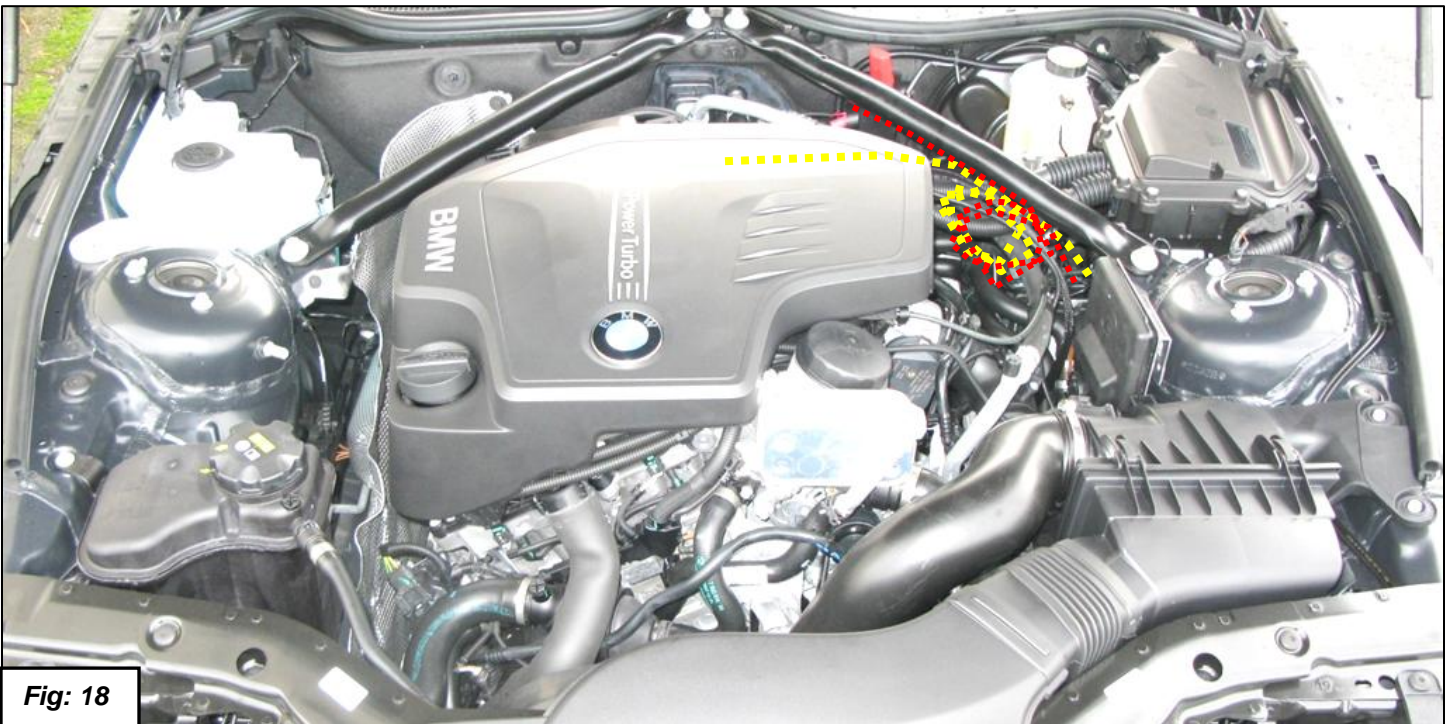

Fig: 18
25. Follow the first part of instructions **D440-0022** (steps 1-13) describing connecting to the engine control unit on the **N20** 4 cylinder engine. The difference of the installation on the Z4 is where you mount the DinanTronics box and the wire routing to and from it. Figure 18 shows the box location and wire routing.
30. Route the wires as shown in figures 18 and 20. Coil up the extra length of wire and secure with a zip tie.